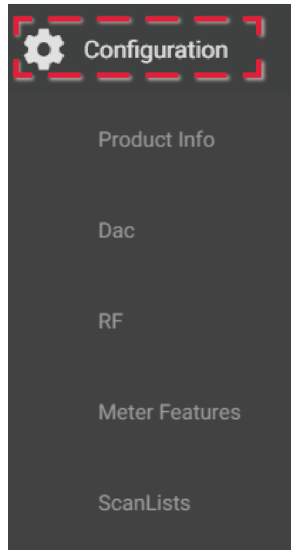

Figure 3-7. Configuration Menu
1. Select **Configuration** to expand the configuration menu Figure 3-7 on page 12.